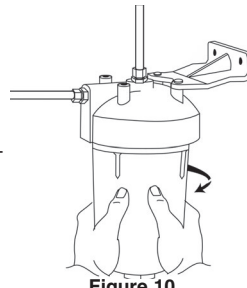

Figure 10
- Remove housing by grasping with both hands and turning to the left. A wrench may be used on the square lug at the bottom of the housing if necessary. (Figure 10)